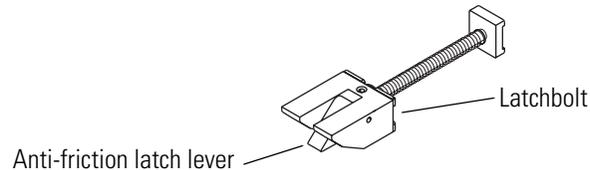

**Figure 3.40** Replacing the latch status switch
2. Route the latch status switch wires or cable as shown in Figure 3.40.